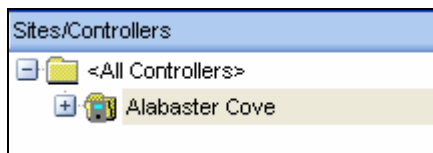

Figure 4.4.3
1. To delete a controller use the “**Site / Controller**” window to find the Site that the controller is assigned to (Figure 4.4.3).